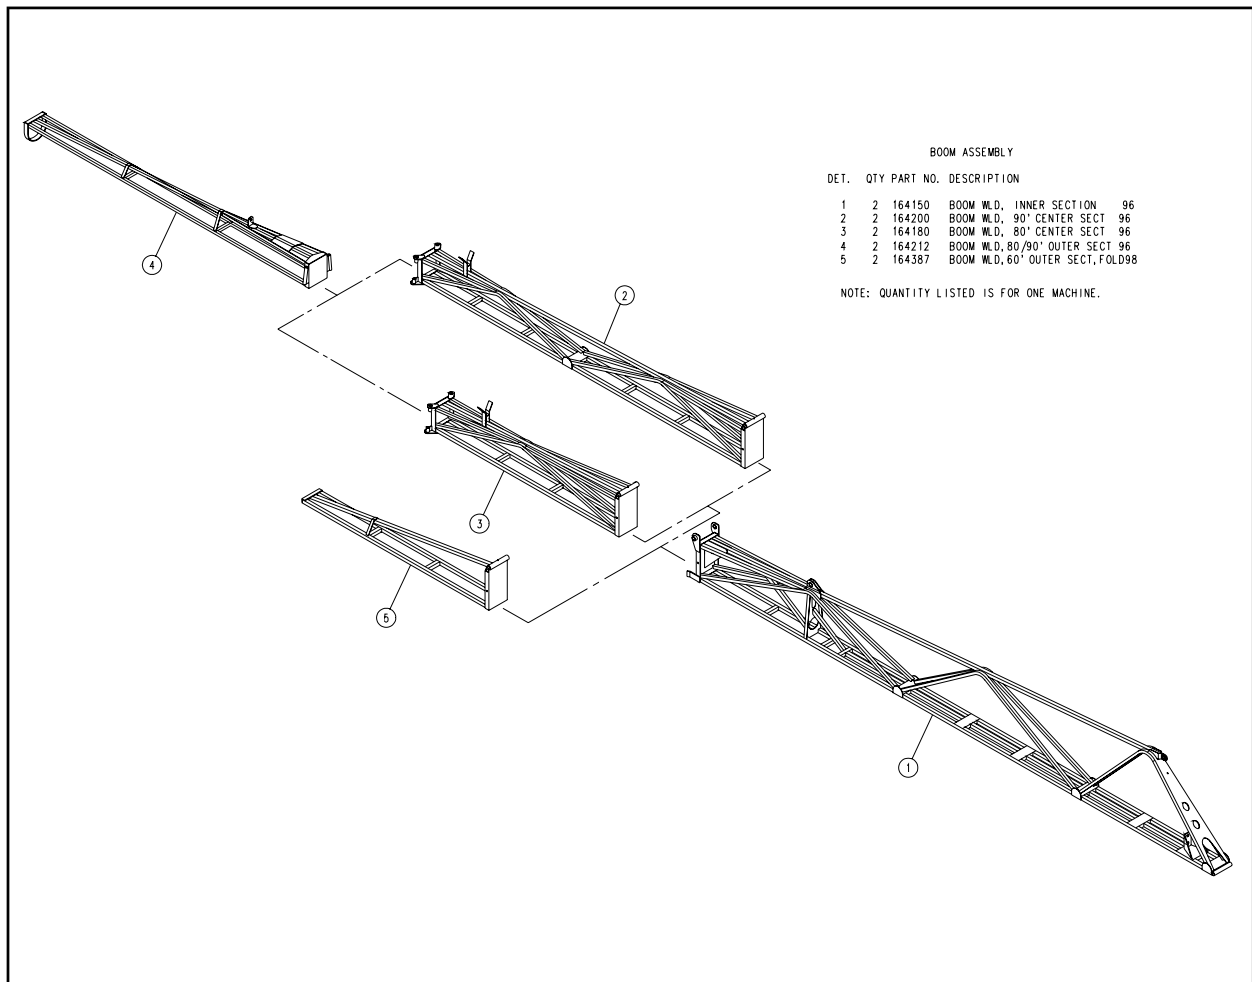

FIG. 4.8
- The booms come in 60 ft., 80 ft., or 90 ft. lengths (fig. 4.8). Refer to the parts manual for detailed drawings for the correct hardware and hydraulic components when attaching to the transom.